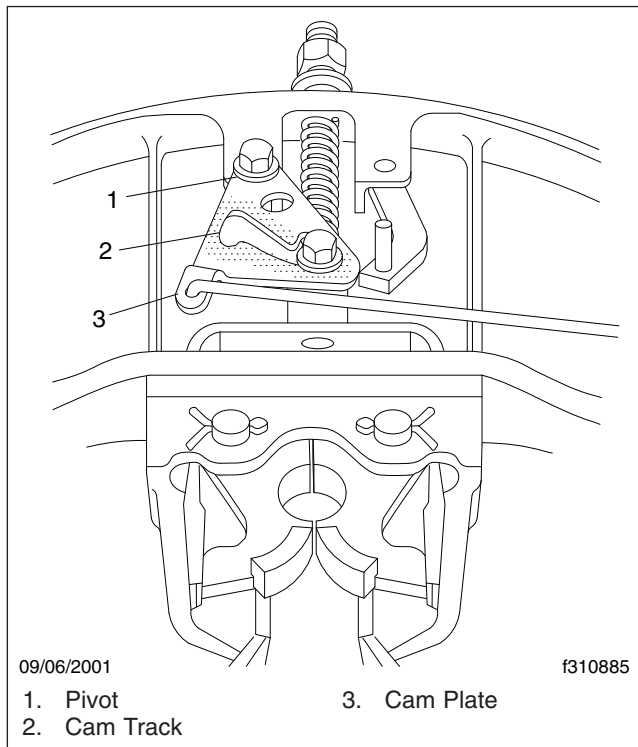

Fig. 7, Holland Fifth Wheel Cam Plate
2. Using a light oil or diesel oil, lubricate the cam track and pivot. See **Fig. 7**.